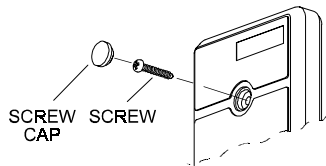

Figure 4. Front cover Assembly
A. Remove the screw and the front cover (see Fig. 4). The round plastic cap is supplied separately in a small nylon bag.
- Position the front cover hole over the LED. Secure the front cover with the screw and mount the plastic cap (see Figure 4).